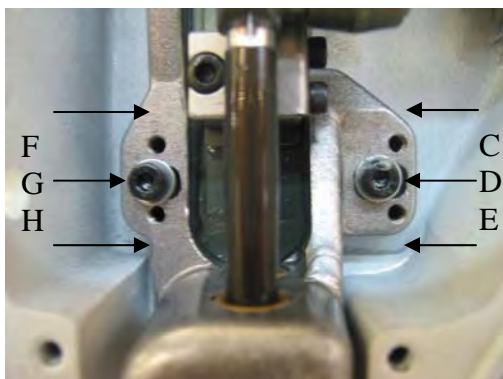

Figure 8.3
- Loosen first the screws G and D in figure 8.3 **(3mm handle allen)**
The primary adjustment is accomplished using the right side of the head frame shown in Figure 8.3. The screws on the left side are loosened to allow movement of the head frame.